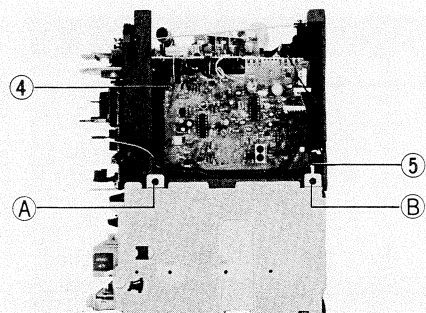

Fig. 15
6-(5) Removal of turntable (Figs 15 and 24-26)
- (1) Remove 4 screws ① and ② shown in Fig. 15 from both sides, then separate the receiver and turntable sections from each other.
- (2) Remove screws ③ - ⑥, then take out the turntable mechanism section.
- (3) Remove screws ⑦ and ⑧, push down stopper ① in the direction of the arrow, then put it in hole ② with either of these screws. (Thereby, stoppers ③ and ④ are raised and undone.)